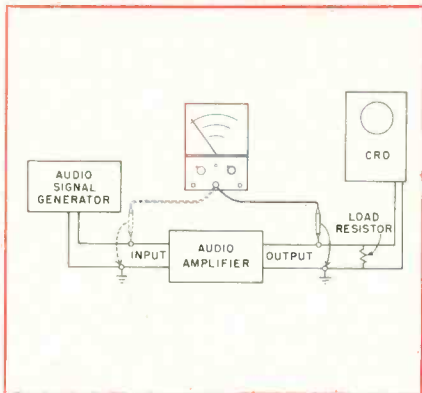
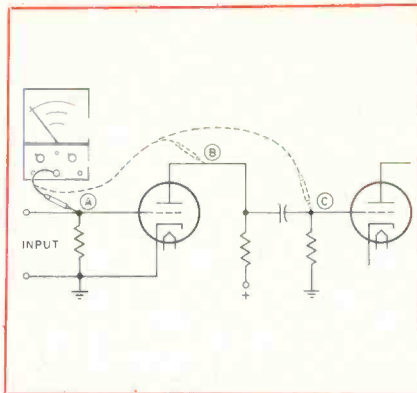

Fig. 3 — Test setup for frequency response measurements.
Fig. 4—Making voltage gain measurements in an audio amplifier.
setup (Fig. 3) is an RCA type WV76A. An audio-frequency generator is also needed to supply the input signal.
1. Connect the equipment (as shown in Fig. 3). The ac VTVM should be connected to the input of the amplifier each time the input frequency is changed. If necessary, adjust the output control of the audio generator to provide a constant input amplitude for all frequencies.
The Scope (shown in Fig. 3) is not necessary for the frequency response check but it may reveal distortion in the output waveform.
With a conventional amplifier arrangement as shown in Fig. 4, the input voltage is measured from point "A" to ground. The gain of the tube is determined by measuring the voltage from point "B" to ground and dividing this reading by the input voltage. The entire stage gain must include whatever loss results in the coupling circuit. Consequently, the output voltage must be measured at the grid of the next stage, point "C," to get proper voltage gain measurement.
A more convenient light-emitting diode design is shown in Fig. 3. There only the central portion of the bottom surface is changed to P-type material. Both P- and N-type material are present in the bottom surface where the electrodes can be attached without obscuring the light produced.
A large portion of the light generated at the diode junction is lost by internal reflection (Fig. 3). Gallium arsenide has an index of refraction 3.6 times that of air. This means that when light strikes the top surface of the semiconductor material at an angle that is greater than 16deg from the normal (the normal is an imaginary line perpendicular to the crystal's surface), the light is internally reflected. The reflected light is absorbed by the crystal and lost.
By shaping the top surface into a hemisphere, the amount of reflected light is reduced (Fig. 4) and the diode becomes 10 times as efficient as before with the flat top surface (Fig. 3). The standard diameter for these hemispherical crystals ranges between 36 and 72-
Fig. 3 — By forming both P- and N-type material at the bottom surface, electrodes can be attached without obscuring the light produced. Light striking the top semiconductor surface at an angle that is greater than 16deg from the normal is internally reflected and lost.
Fig. 4 — The light-emitting diode becomes 10 times as efficient when the top surface is shaped into a hemisphere to reduce internal reflections at the top surface.